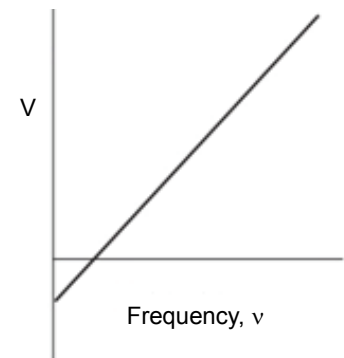

Fig. 1: Stopping Potential, V , versus Frequency
Einstein’s theory predicts that if the frequency of the incident light is varied, and the ‘stopping’ potential, V , is plotted as a function of frequency, the slope of the line is h/e (see Figure 1).
- The slope of a plot of stopping potential versus frequency is the value of the ratio, h/e . See Figure 1.